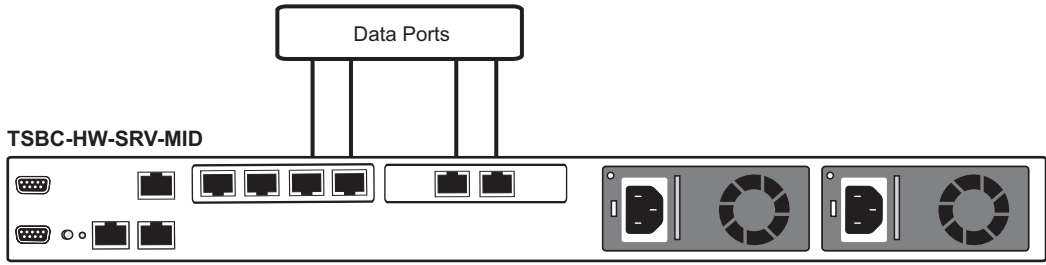

Figure 3.6 TSBC-HW-SRV-MID: Connecting to the Data Network
- To connect the TSBC-HW-SRV-MID to the data network, refer to Figure 3.6 on page 21.